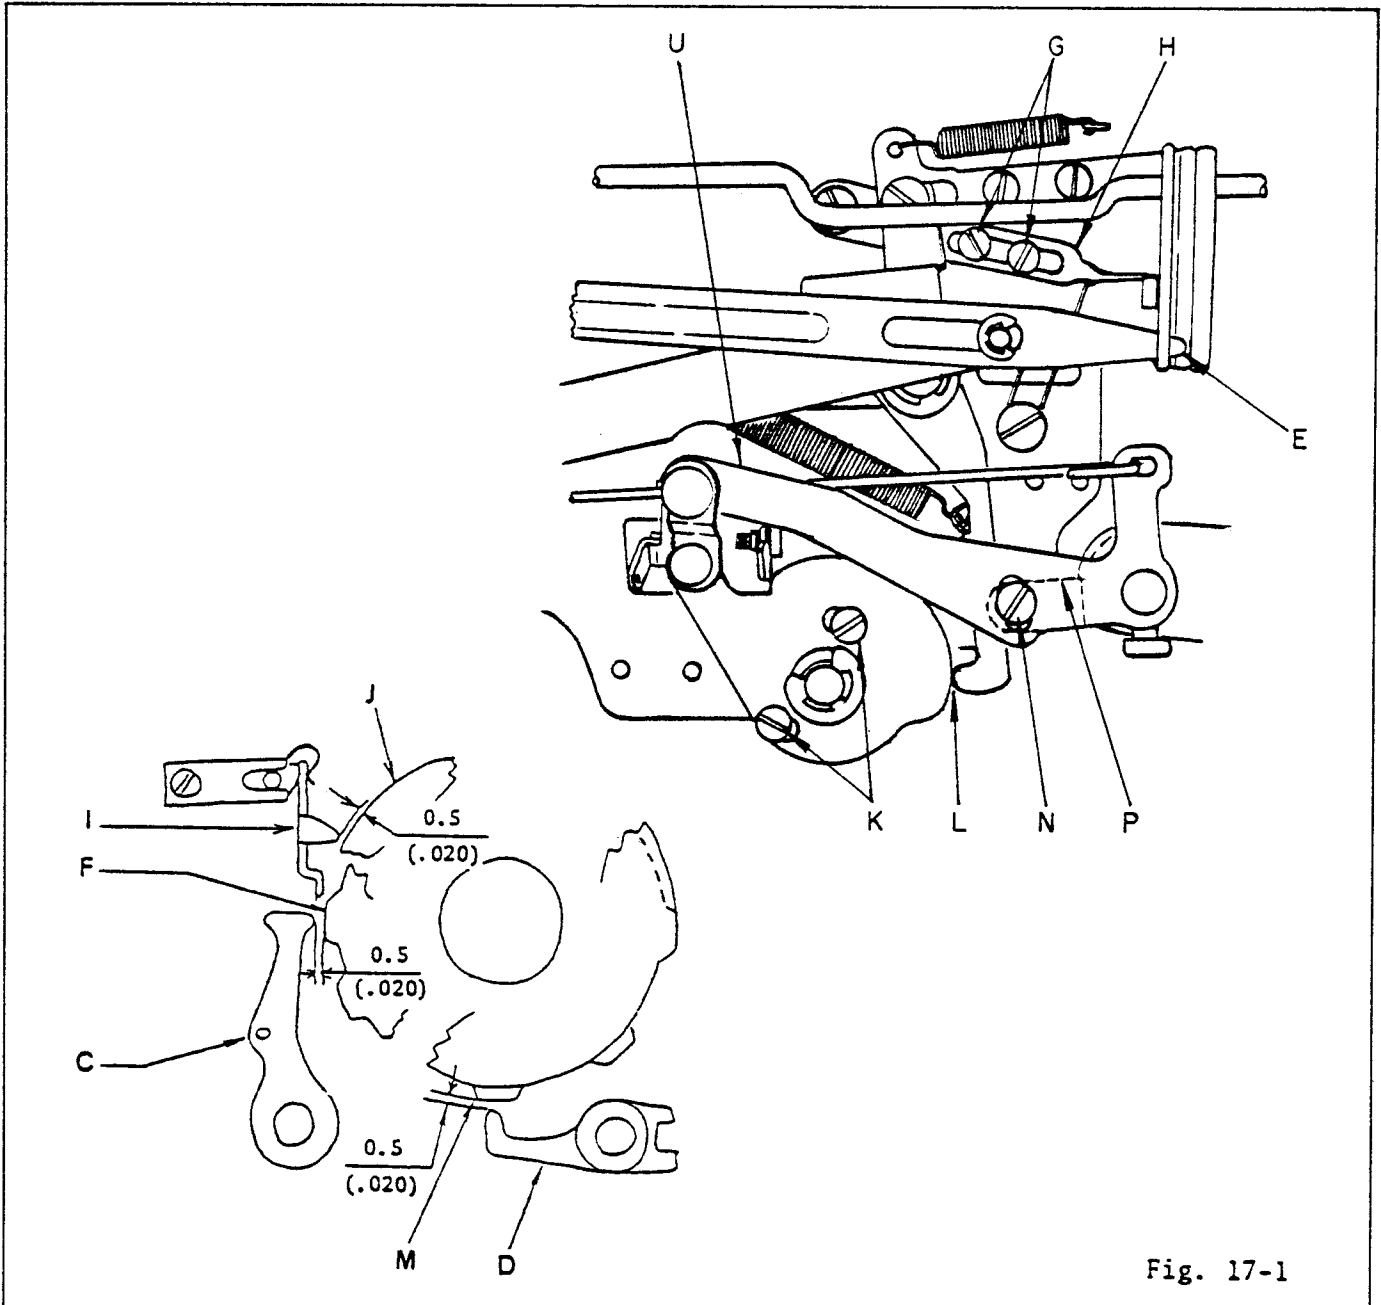

Fig. 17-1
Proper selection of patterns is impractical without cam release system. When change in pattern is desired, turning of the cam follower releasing dial engages the kick-out lever plate (A) and Kick-out lever locking cam (B) and pulls needle position follower (C), feed control follower (D), as well as needle bar driving arm plate (E), away from the cam stack a sufficient distance for all followers to clear the outer perimeter of the cams. (Fig. 17-1).
When kick-out lever plate (A) is engaged with kick-out lever locking cam (B), there should be at least 0,5 mm (.020) clearance between buttonhole needle position follower (I) and buttonhole cam (J). (Fig. 17-1).